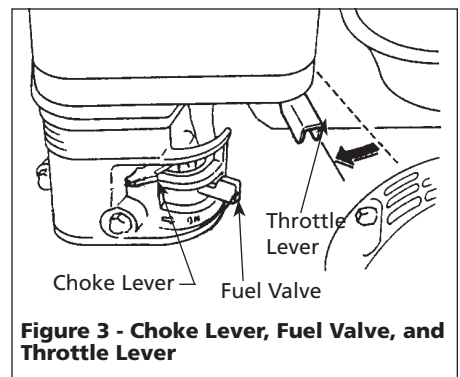

Figure 3 - Choke Lever, Fuel Valve, and Throttle Lever
Throttle Lever (Figure 3).
7. Move the choke toward the closed position as per Figure 3.
8. Move the throttle lever slightly to the left as per Figure 3.
9. Turn the fuel valve ON as per Figure 3. Pull the start rope. Pull the engine over against compression stroke and then let the rope rewind slowly into the starter. Pull firmly and rapidly to start the engine. Do NOT drop the rope. Hold onto the handle while rewinding, or the rope may rewind improperly and jam the assembly. If the engine does not start, open the choke a little more. If the engine floods, open the choke all the way and continue cranking.